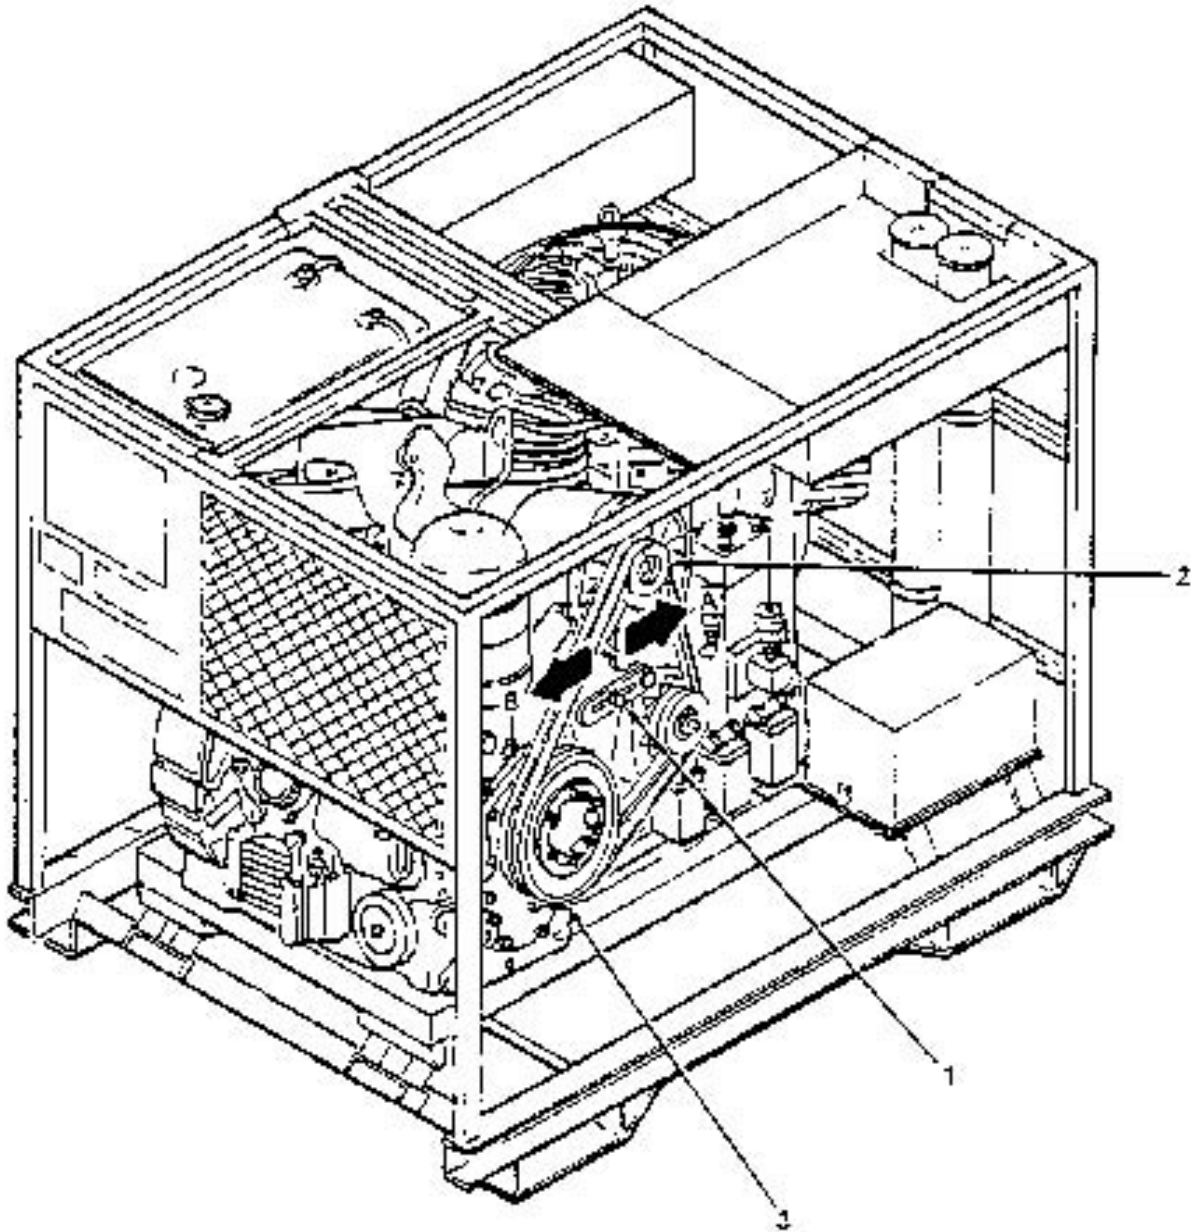

Figure 4-56. Alternator, Adjust.
b. Adjust. (figure 4-56)
- (1) Loosen screw (1).
- (2) Adjust belt tension so that a firm push midway between blower pulley (2) and engine pulley (3) will depress belts approximately 0.4 - 0.6 in. (10 - 15 cm).
- (3) Tighten screw (1).